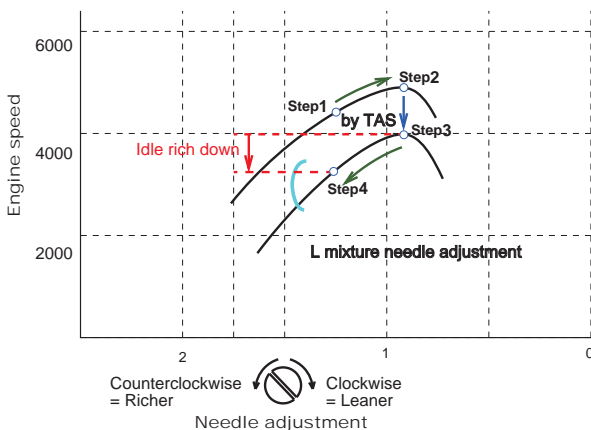

Fig.1: Low speed setting
B. Low speed setting Fig.1
Refer to column “**Low speed setting: Fig.1**” on the **SERVICE DATA**.
Step 3: Set low speed to the value listed in column “**Low speed setting: Fig.1 Steps 2 & 3**” by turning TAS (throttle adjust screw)(T). Engine speed should be stable within +/- 50 r/min after throttle adjust screw adjustment.
Step 4: Turn L mixture needle counterclockwise reducing engine low speed to the value in column “**Low speed setting: Fig.1 Step 4**”.